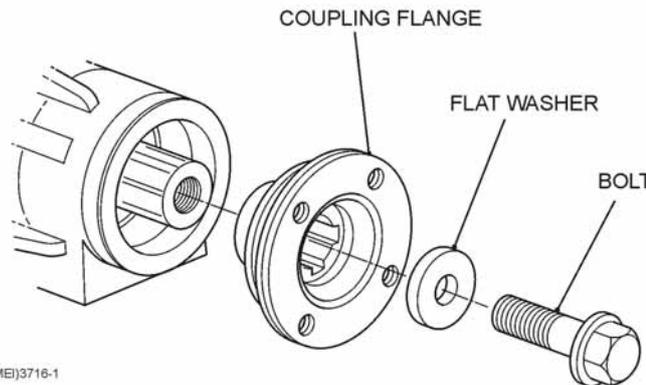

Figure 248 Installing The Coupling Flange – Later Version
- (2) **Later Version.** Install the later version pinion flange as follows:
- (a) Install the coupling flange, flat washer and bolt (Figure 248).